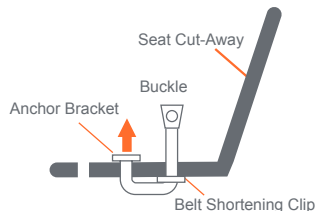
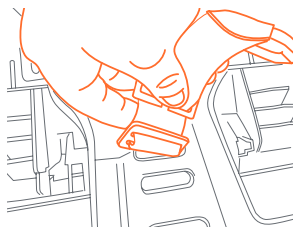

Fig. 33-1
Fig. 33-2
2. Insert the sewn Anchor stamping and the woven positioner stamping thru the inner most slot, slot #1 (Fig. 33-1) - (Fig. 33-2).